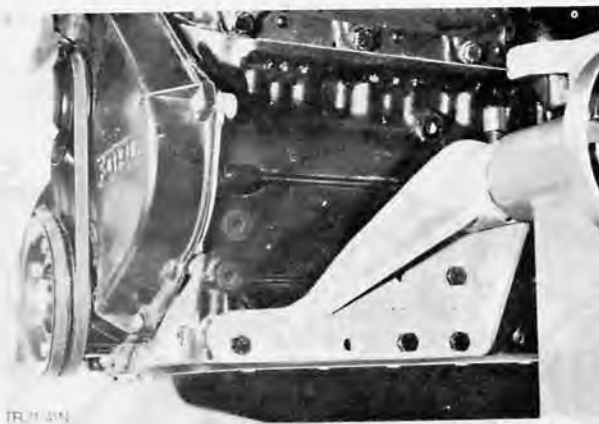

Fig. 41. Secure engine to stand, using Special Tools
1. Remove front left-hand engine mounting rubber insulator, then fit engine stand(s) 21-061-A/B/C/D using mounting bracket 21-015 and universal shaft 21-023, Fig. 41.